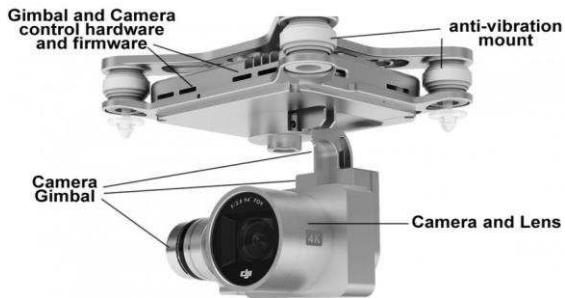

Fig. 11. Camera during the flight
16. Gimbal -Israel holding a camera during a flight and enables it to deliver stable images (fig. 11).